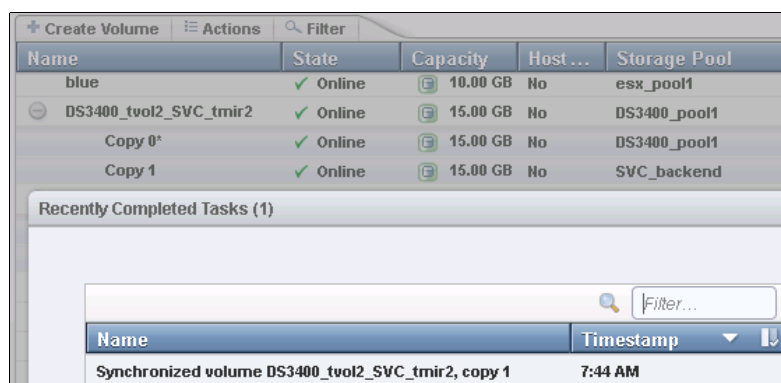

Figure 5-18 Synchronization progress
- The initial synchronization of thin-mirrored volumes is fast when a small amount of real and virtual capacity is used. The amount of time that is required for synchronization might grow rapidly over time (Figure 5-18).